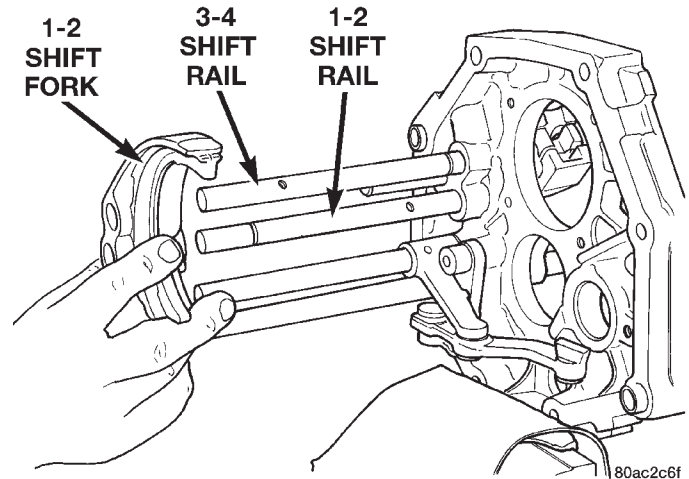
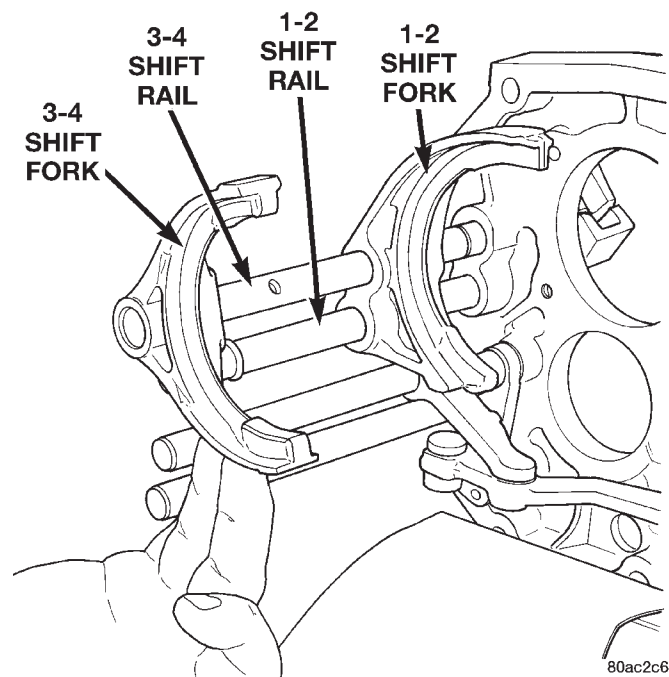

Fig. 85 Install 1-2 Shift Fork
Fig. 86 Install 3-4 Shift Fork
(15) Install the shift rail detent balls in the intermediate plate.
(16) Install the shift rail detent springs in the intermediate plate. Note that the bottom detent spring is shorter than the others.
(17) Install the shift rail detent plugs in the intermediate plate.
(18) Install the 1-2 shift fork onto the 1-2 and 3-4 shift rails (Fig. 85).
(19) Install the snap-ring onto the 1-2 shift rail.
(20) Install the 3-4 shift fork onto the 3-4 shift rail (Fig. 86).
(21) Install mainshaft into the intermediate plate by guiding the output shaft through opening in intermediate plate until the shift forks are aligned with the appropriate synchronizer sleeves. The mainshaft rear bearing will be started in the intermediate plate but not fully driven in at this point.
(22) While an assistant supports the mainshaft, align rear of countershaft with inner race of countershaft rear bearing.
(23) Raise countershaft upward until gears mesh with the mating gears on the mainshaft.